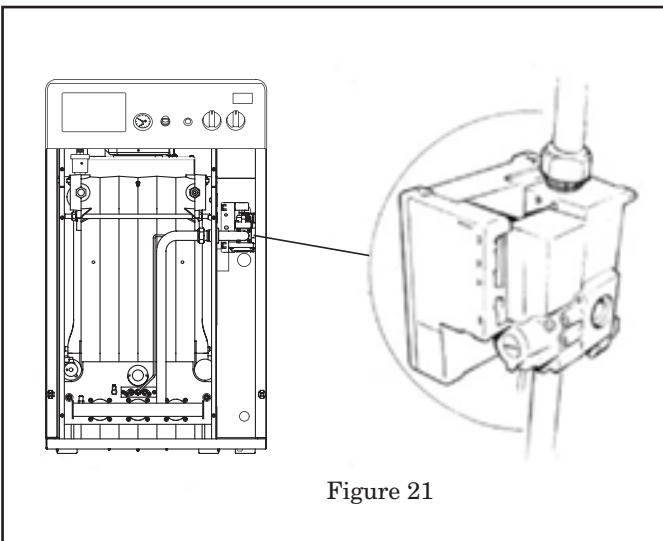

Figure 21
6. Locate gas valve. See Figure 21.